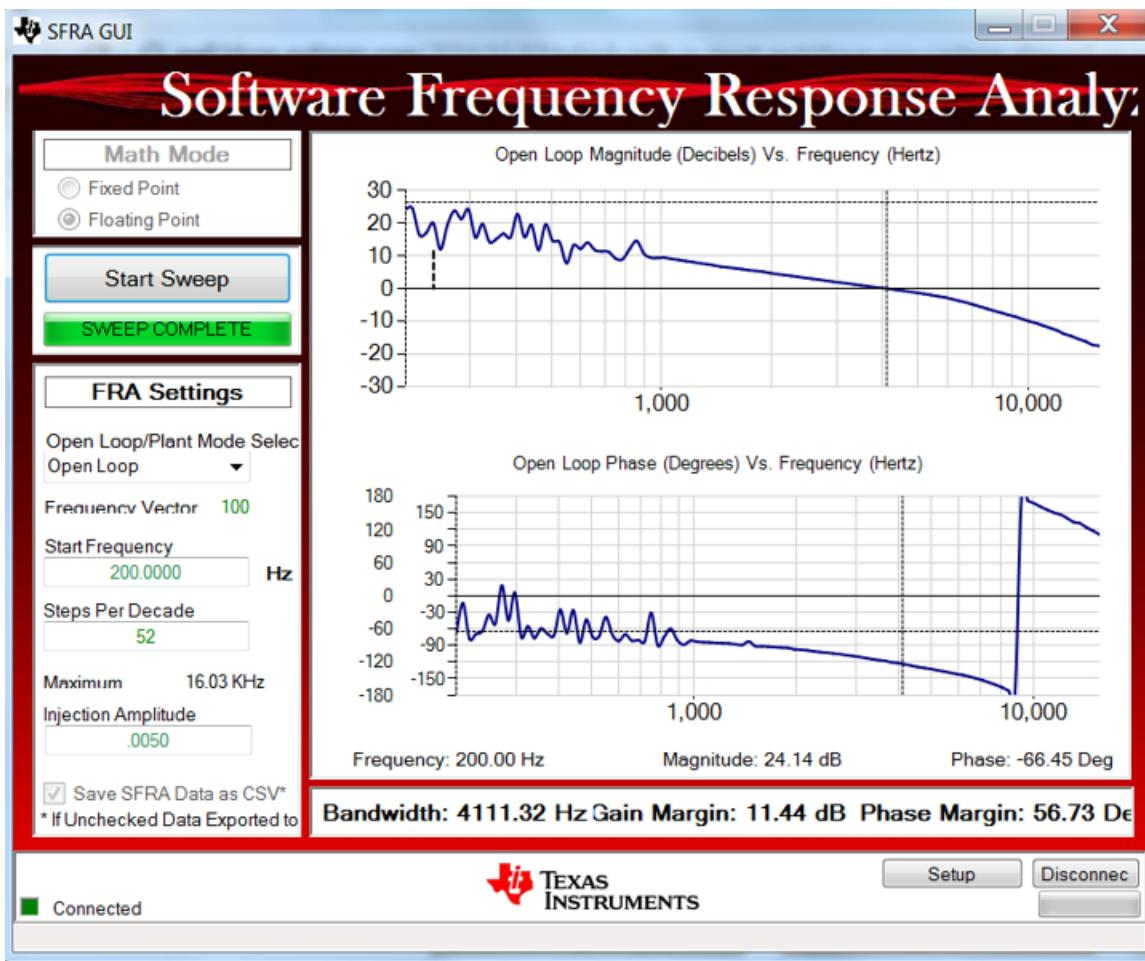

Figure 33. SFRA Run on Closed Current Loop
14. The SFRA GUI will connect to the device. A SFRA sweep can now be started by clicking *Start Sweep*. The complete SFRA sweep will take a few minutes to finish. Activity can be monitored by seeing the progress bar on the SFRA GUI and also checking the flashing of blue LED on the back on the control card that indicates UART activity. Once complete, a graph with the open loop plot will appear, as in Figure 33. This verifies that the designed compensator is indeed stable.